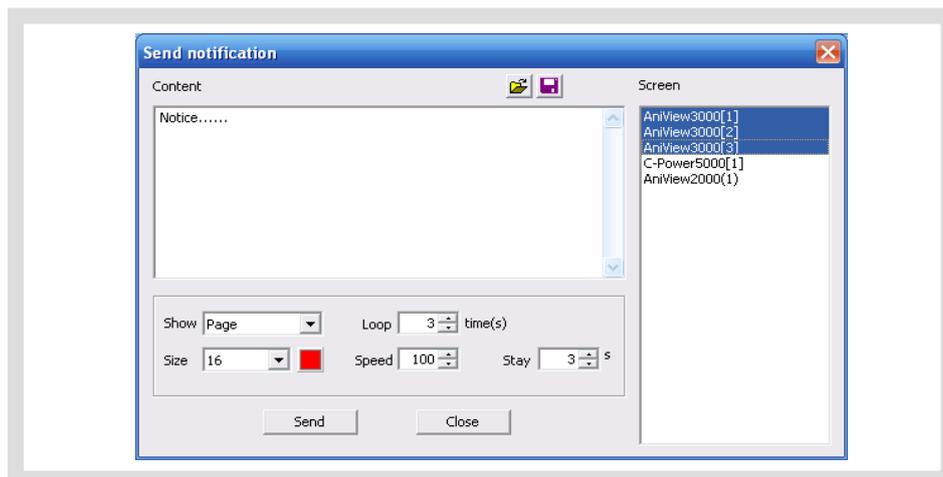

Figure33 Send notice
- A. Click “Play” – “Send notification” in menu, or click  button in tool bar. And then the dialog box of sending notice, as shown in Figure33, pops up.